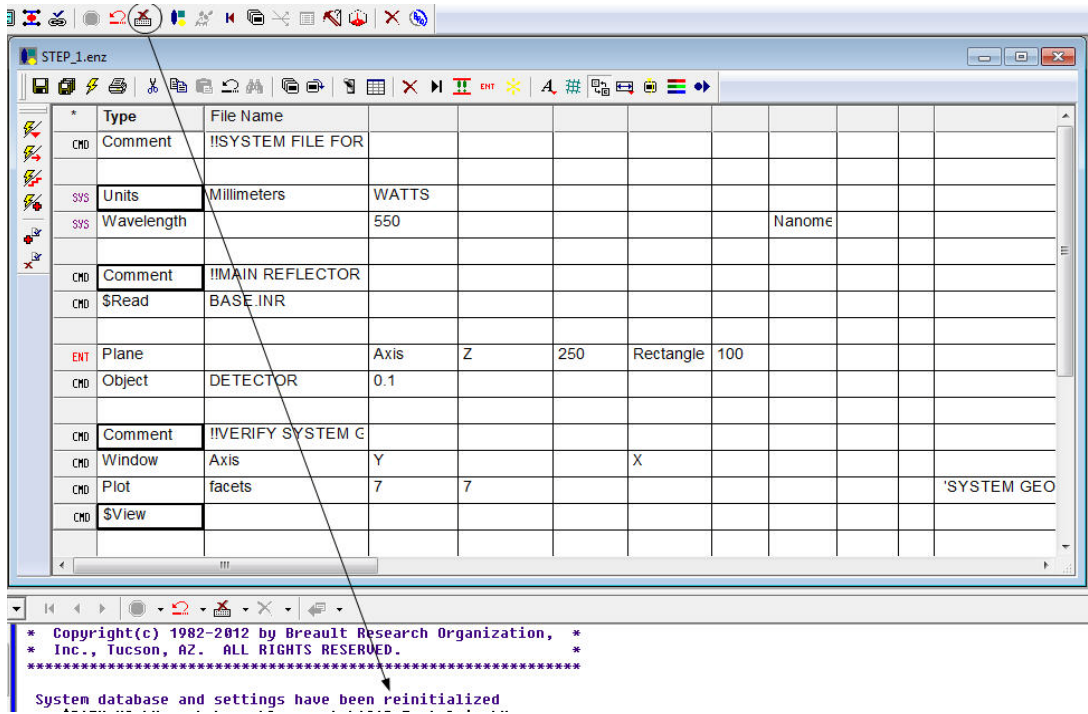

Figure 39 Refreshing ASAP with the Restart Kernel button
- 40 Refresh ASAP by clicking the Restart Kernel button,  on the ASAP toolbar. The text in the Command Output window now states, "System database and settings have been re-initialized". See Figure 39.